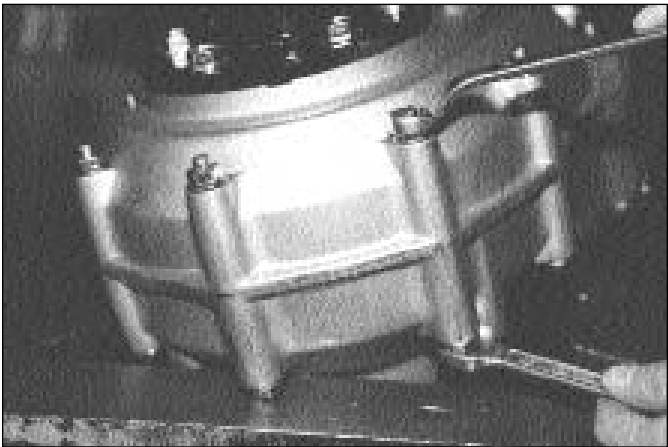

Figure 22 - Case Bolts
4. Support transaxle by gear case with input shaft pointing down. Loosen and remove all case bolts. See Figure 22.